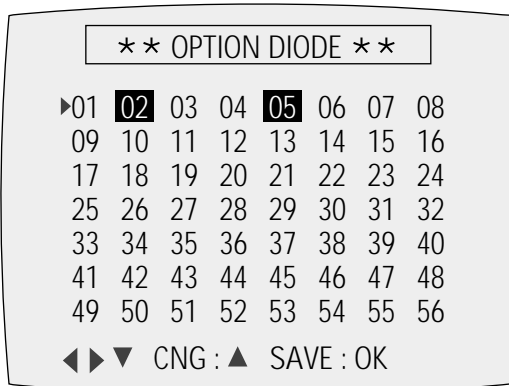

Fig. 2-4 (VCR)
- 2) Press the "MENU" button on the remote control about 5 seconds then option setting display is appeared. (See Fig. 2-4 and 2-5)
- 4) If selecting the option number is completed, press the "PLAY" button of remote control. (If "PLAY" button is pressed, the selected number is changes reversed color ; See Fig. 2-4 and 2-5)